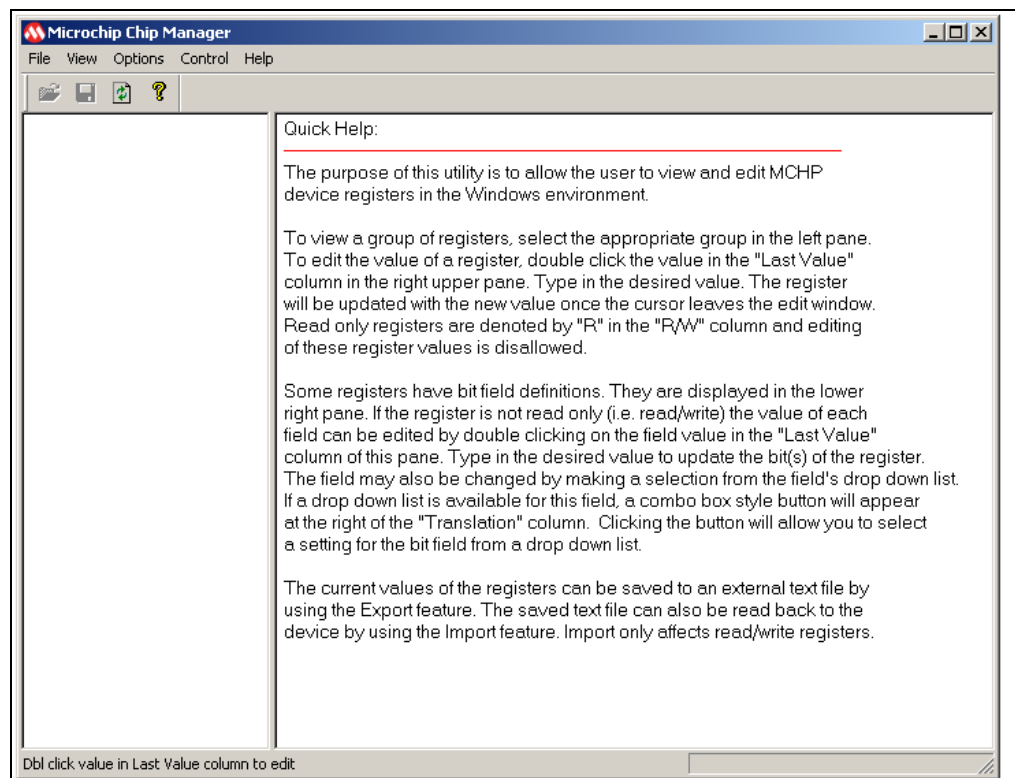

FIGURE 2-9: *Microchip Chip Manager – Quick Help Window.*
- Start the software by either going to Windows *Start button > All Programs > Microchip > Microchip Chip Manager* or by clicking the software icon () on the desktop. The evaluation board software will initialize while the Microchip Chip Manager with the Quick Help screen appears (see Figure 2-9).